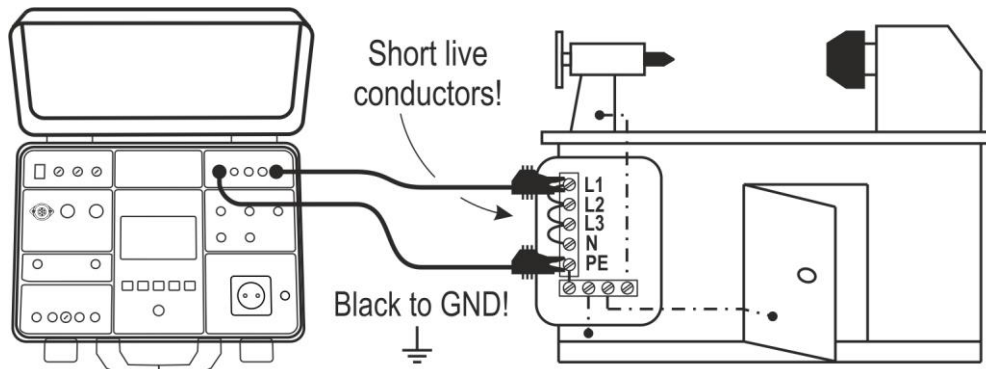

Fig. 39 : Connection of test leads
8. Insert the measurement terminals between the **COM** input and the input corresponding to the programmed test voltage and connect the instrument as shown in Fig. 39. Always connect the **COM** terminal to the GND ground if the measured OUT output is earthed, otherwise any capacitive leakage currents could be discharged to the ground and disturb the measurement